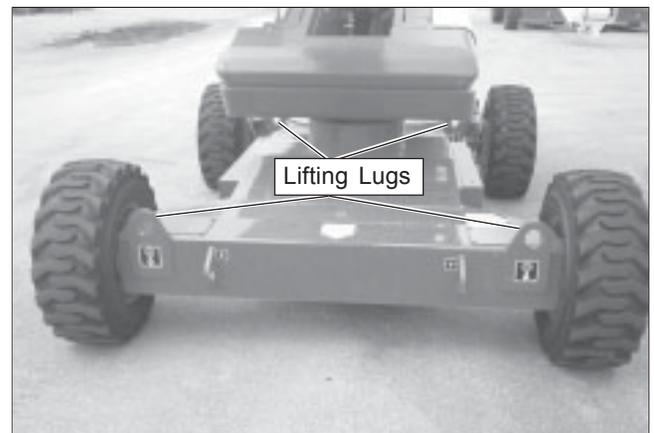

Figure 9.5 – Lifting Lugs
2. Inspect the lifting lugs (refer to Figure 9.5) to make sure they are free of cracks, rust, and are in good condition. Have any damage repaired by a qualified service technician before attempting to hoist the machine.